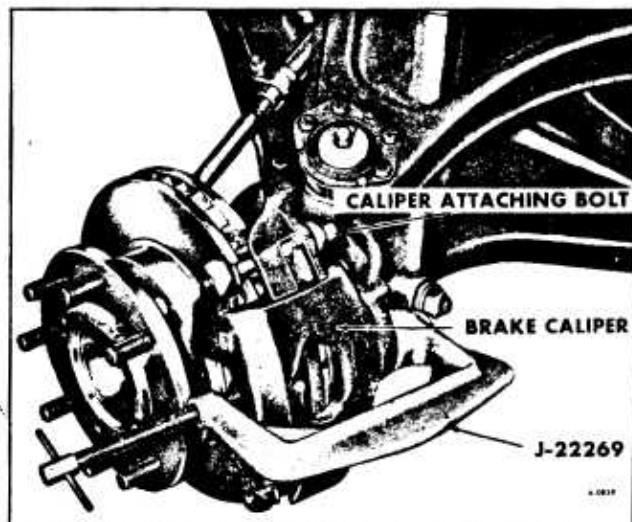

Figure 5-Caliper Removal
4. Position Tool J-22269 or caliper as shown in Figure 5